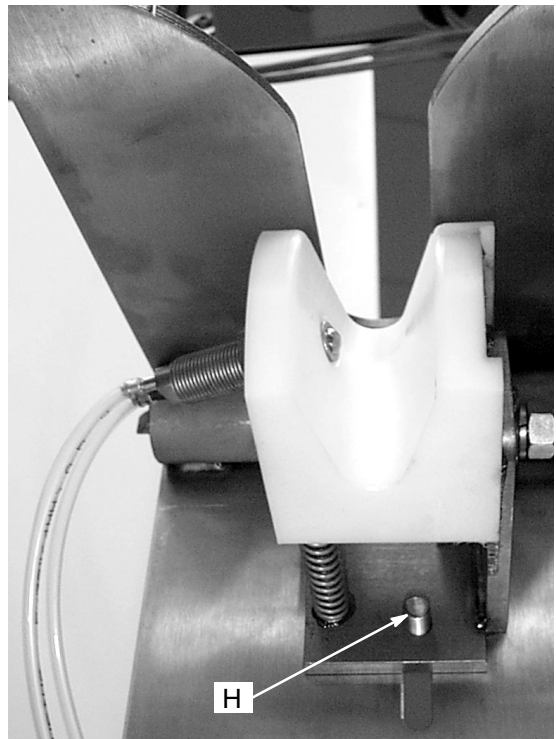

Fig. 14
4. Mark the location of the screws (H), then tighten the screws (J) in the new location. See Fig. 14.